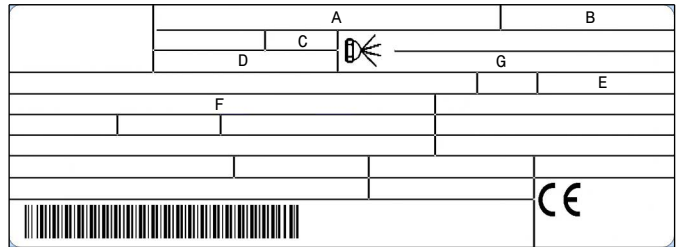

Fig. 7
- the model (see **A** in Fig. 7) and the type of burner (**B**);